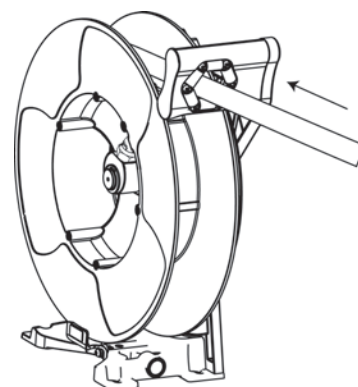

Fig. 9
- Pull the hose hard enough to release the latch, and slowly allow the hose to retract (Fig 9).
- Liberar el trinquete y acompañar lentamente la manguera al recogerse (fig. 9).